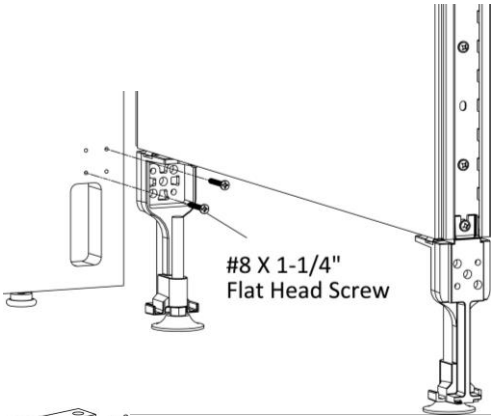

Figure 3
6. Drive two #8 x 1-1/4" Flat Head Screws through the holes in the standard panel leg into the pre-drilled holes of the gallery panel, (Figure 3).